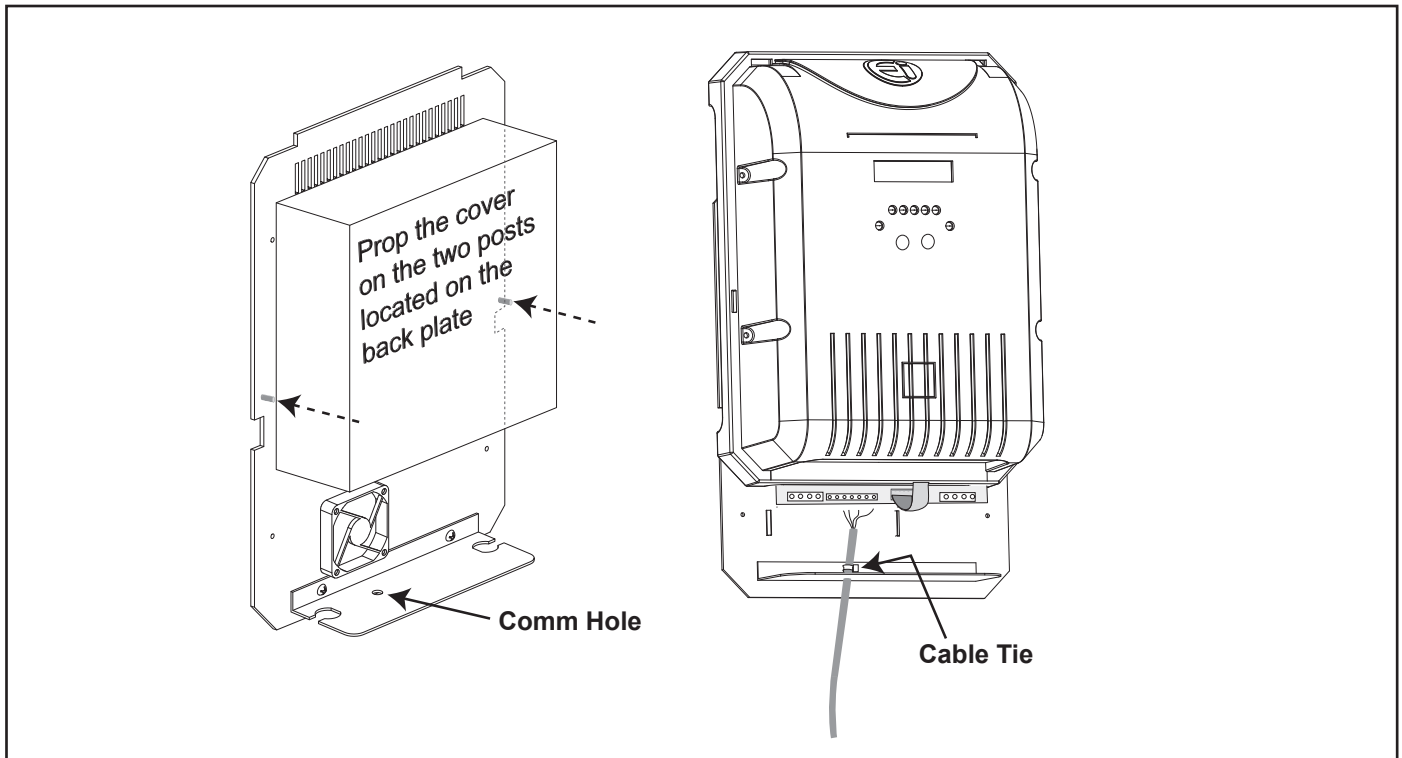

Figure 19. Accessing and Wiring to the Power PCB
2. Remove the screws attaching the cover to the back plate and prop the cover up to expose the terminals (see Figure 19).
3. Remove the white cap covering the comm hole (see Figure 19).
5. Attach a cable tie to the controller cable as shown (see Figure 19).